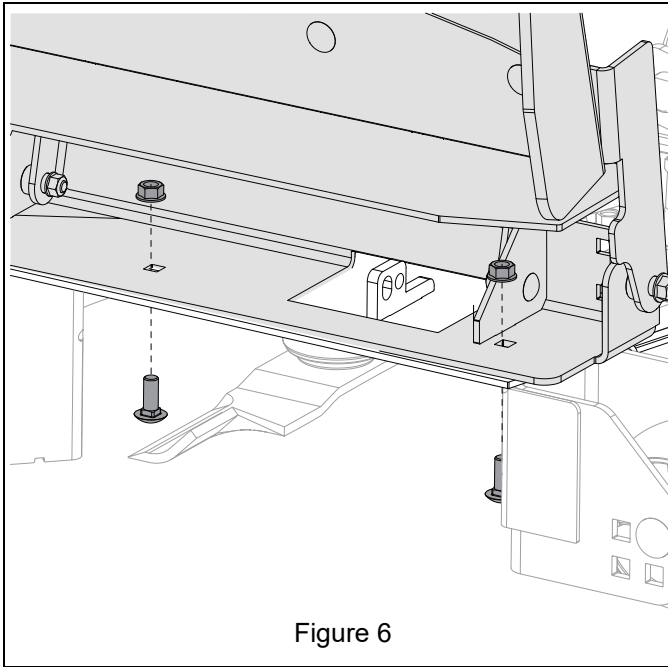

Figure 6
5. Secure discharge chute to deck using hardware removed earlier. See Figure 6.